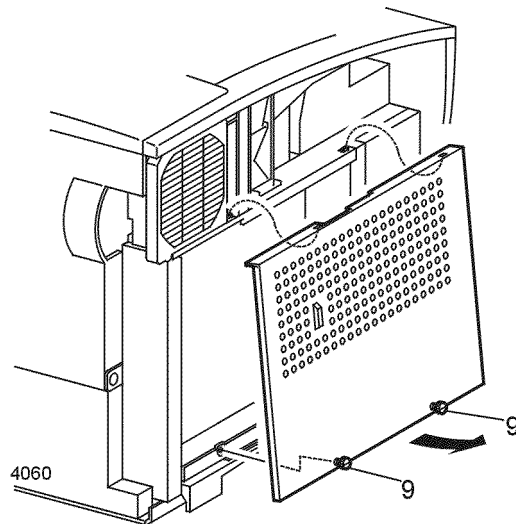

Figure 1 Shield Cover
9. Loosen the two thumb screws and remove the System Controller PWB Shield Cover (Figure 1).